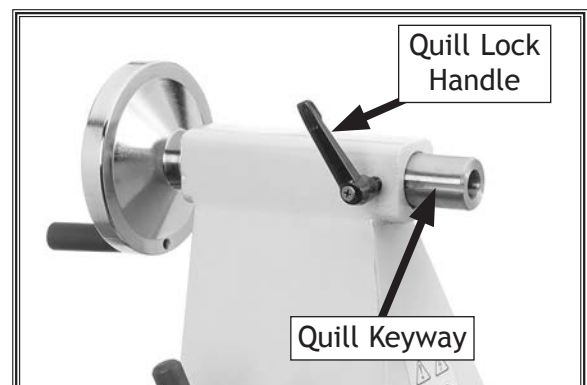

Figure 28. Quill lock handle aligned with quill keyway.
5. Make sure center of quill lock handle is aligned with quill keyway to ensure tailstock center and quill will not freely rotate under load (see **Figure 28**).